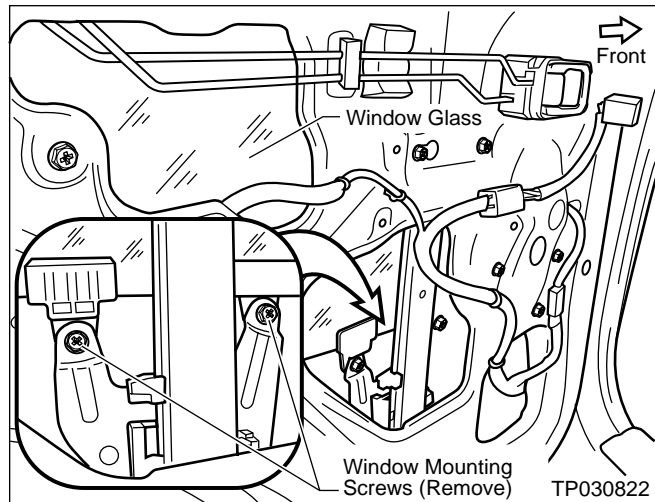

Figure 44
8. Temporarily re-connect the Door Release Handle/Switch Panel to the Vehicle Harness. Then adjust (up or down) the window until the Window Mounting Screws are visible (see Figure 44).
9. While holding onto the window, remove the Window Mounting Screws (see Figure 44).